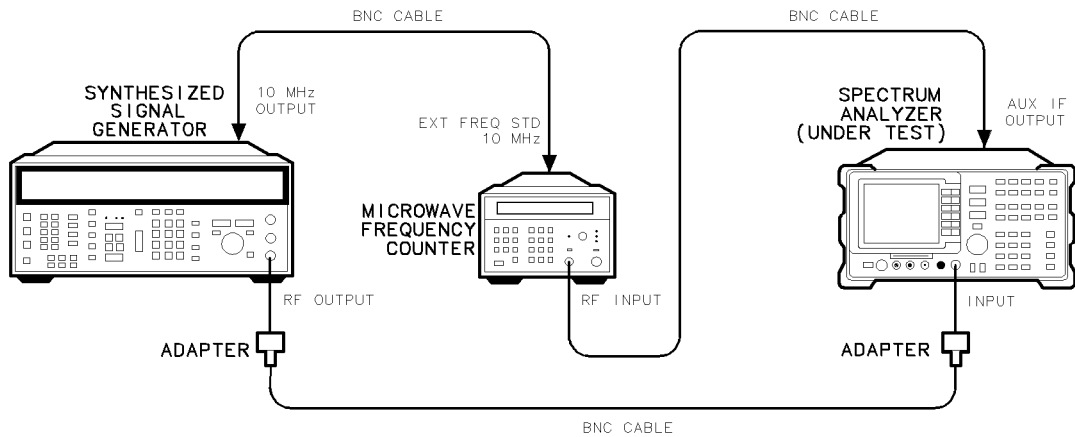

Figure 10-5. IF Frequency Accuracy Test Setup
1. Connect the equipment as shown in Figure 10-5.